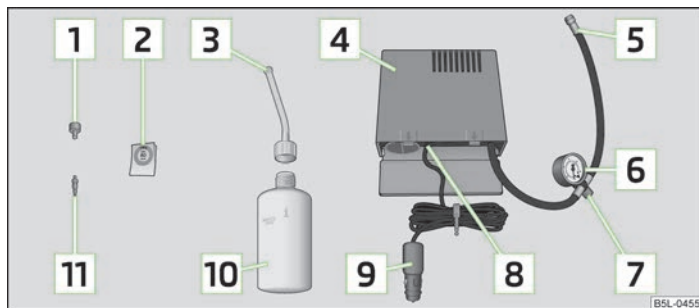

Fig. 160 Components of the breakdown kit
- Stick the sticker [2] » Fig. 160 on page 195 in view of the driver.
- Forcefully shake the tyre inflator bottle [10] » Fig. 160 on page 195 several times.
- Screw the tyre inflation hose [5] » Fig. 160 on page 195 of the air compressor firmly onto the tyre valve.